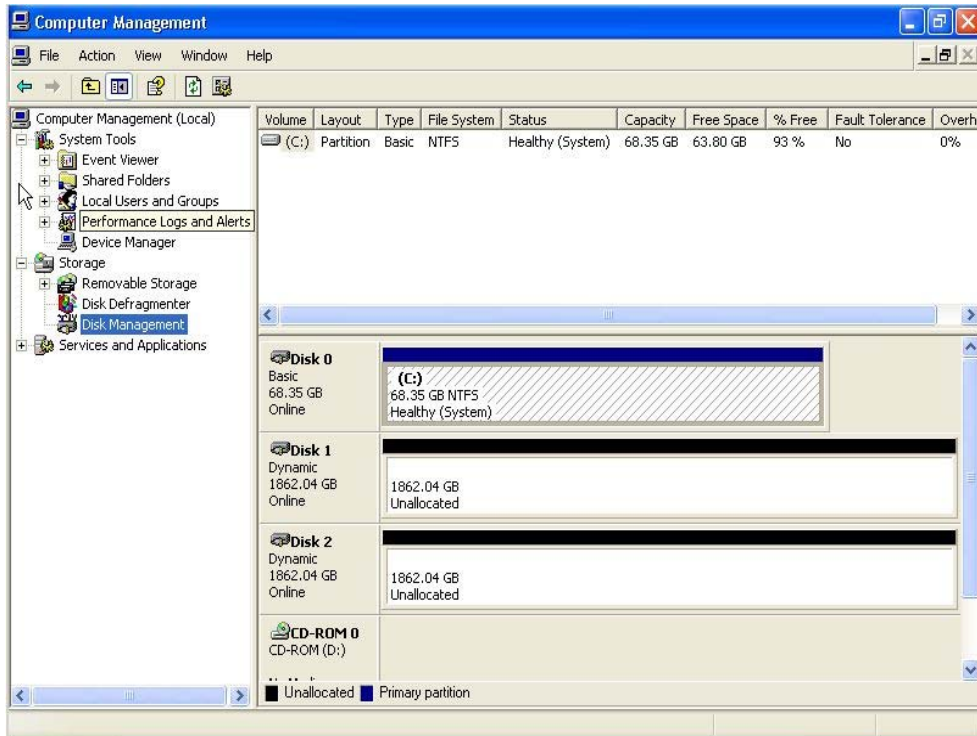

FIGURE 6-19. Computer Management - Disk Management Screen.
7. The *Computer Management - Disk Management* screen appears. It shows Disk 1 and Disk 2 as unallocated and each with 1862 GB (1.862 TB) of capacity. See Figure 6-19.